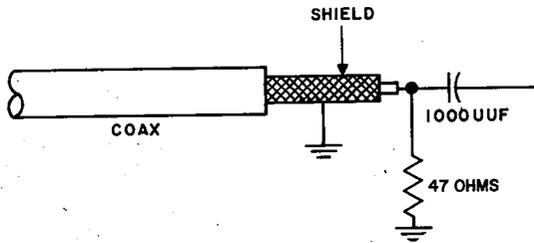

Figure 5-2. Signal Generator Probe
b. Couple a 500-kc signal from the signal generator into the grid, pin 7, of the second mixer stage, V4A, through a 1000-uuf capacitor with a 47-ohm resistor in shunt to ground on the generator side of the capacitor. (See figure 5-2.)
c. Couple an 11.535-mc signal from the signal generator through the probe shown in figure 5-2 into the grid, pin 1, of the first mixer stage, V2, of sufficient level to produce an avc reading on the vtm.